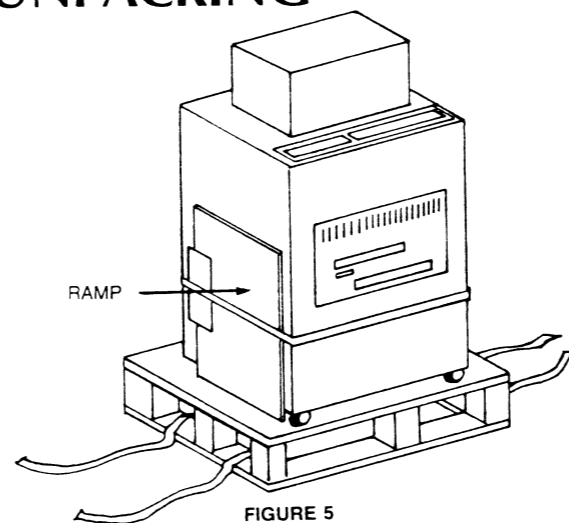

FIGURE 5
4. Remove the shipping strap around the bottom of the printer. Remove the ramp from its shipping position (See Figure 5).